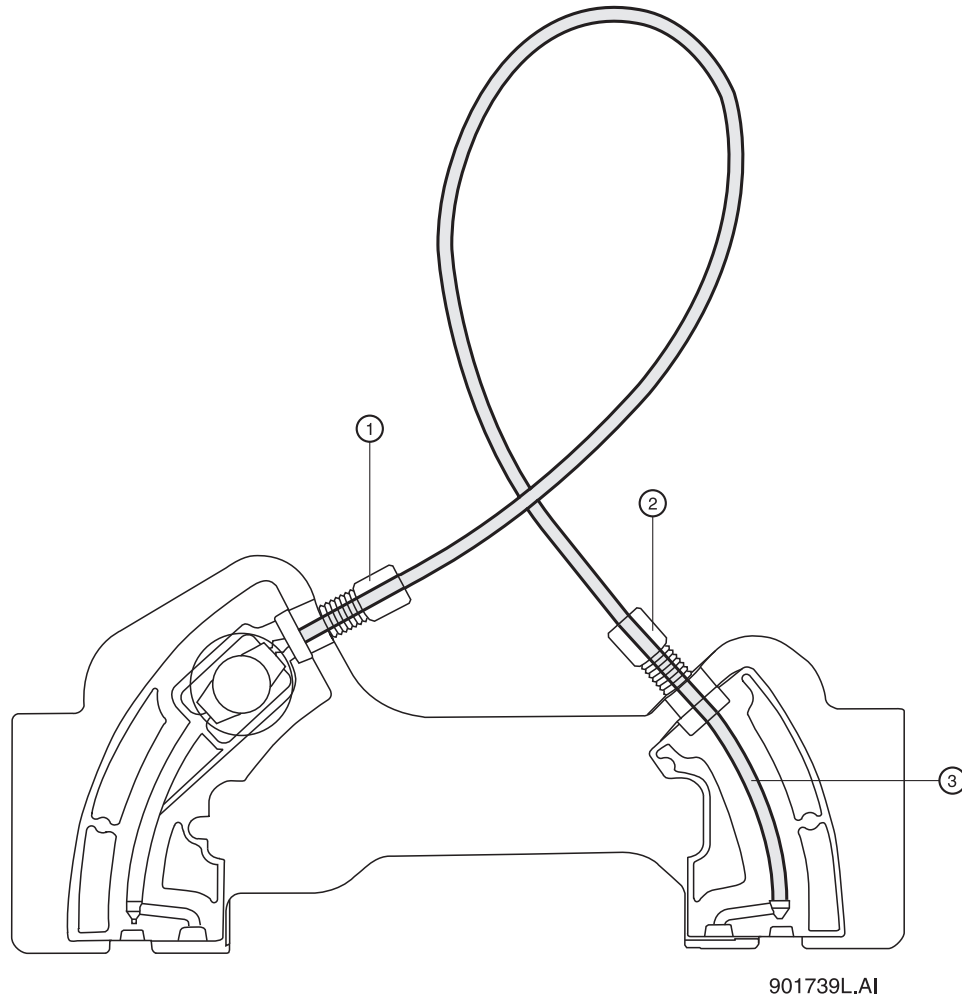

Figure 4.8 Inserting the Coolant Tubing in the Cartridge Inlet (Back View)
9. Insert the coolant tubing in the cartridge inlet and press firmly into the cartridge base. Be sure the tubing slides all the way into the cartridge base as shown in Figure 4.8.